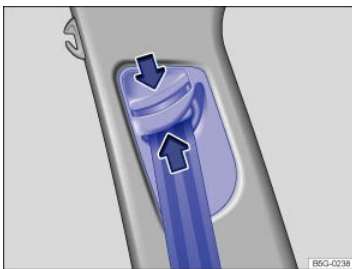

Fig. 36 Next to the front seats: Safety belt height adjuster.
- Pinch the safety belt attachment together as indicated by the arrows and hold ⇒ Fig. 36.